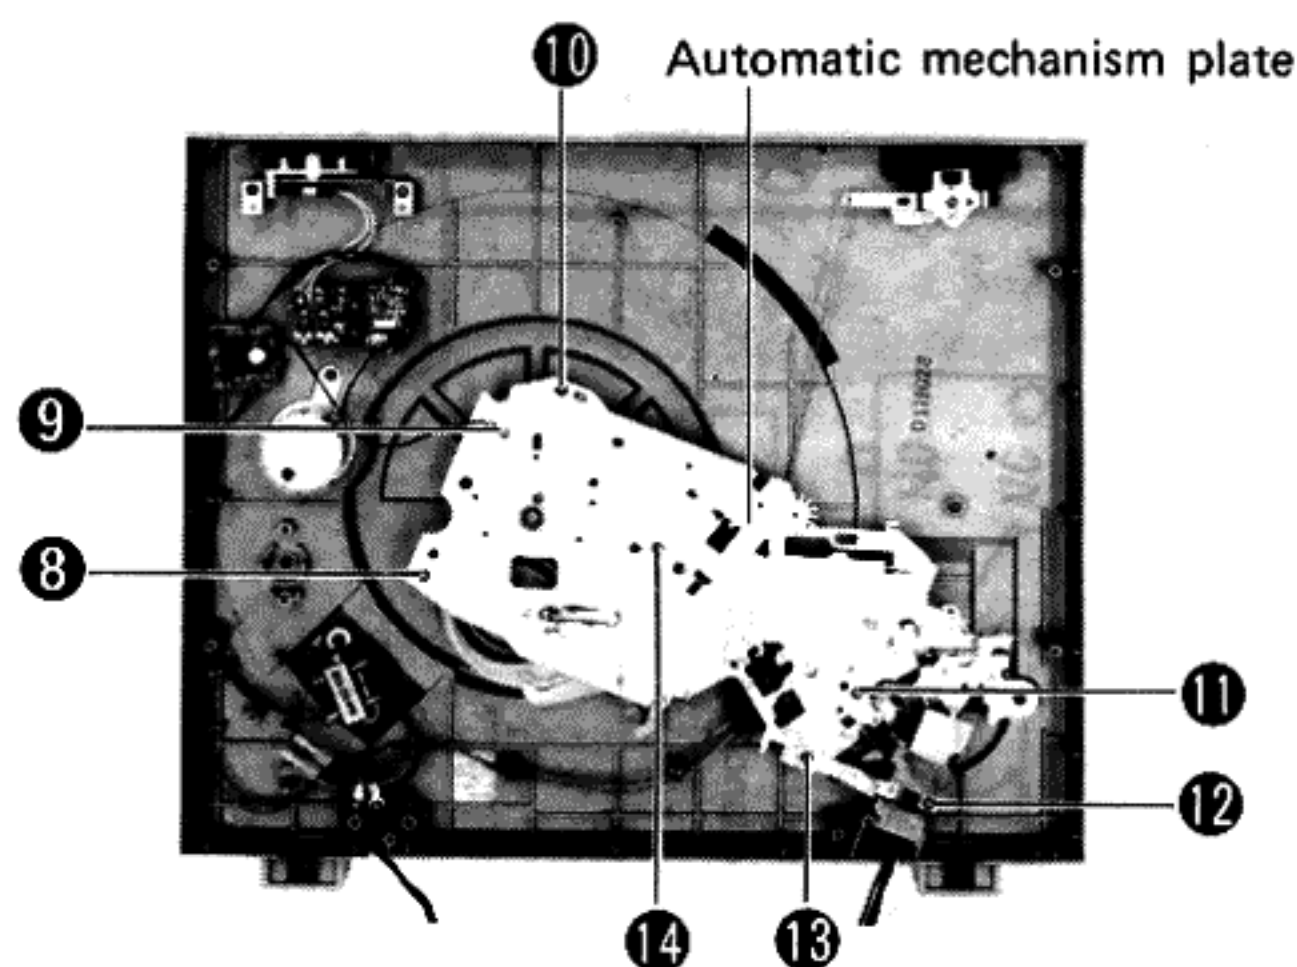

Fig. 2
5. Remove the setscrews ⑧ ~ ⑭ in the automatic mechanism plate, then the automatic mechanism plate can be detached. (See Fig. 2)